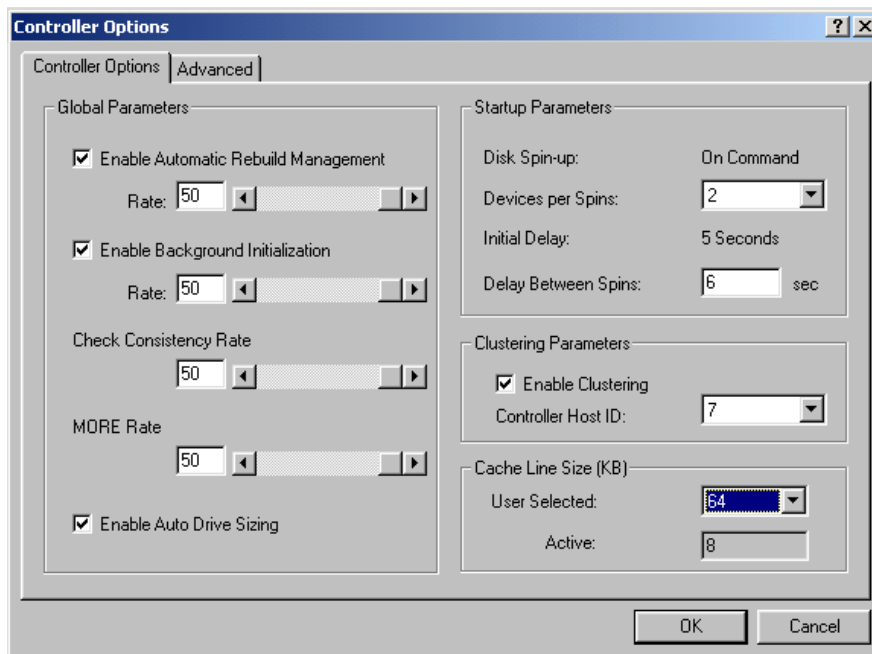

Figure 4-2. Controller Options Dialog Box for new PCI DAC
1. Select the Controller Options tab (Figure 4-2).